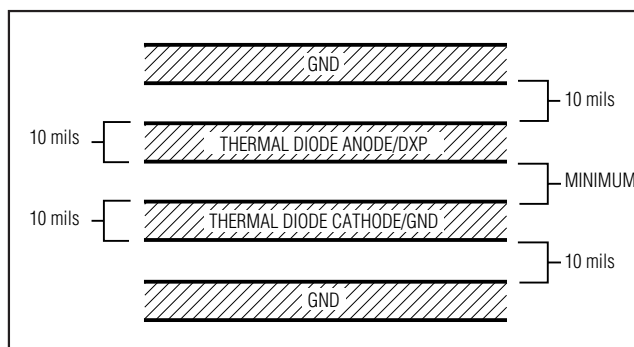

Figure 4. Recommended DXP PC Traces
- 4) Route the thermal diode traces in parallel and in close proximity to each other, away from any higher voltage traces, such as +12VDC. Leakage currents from PCB contamination must be dealt with carefully since a  $20\text{M}\Omega$  leakage path from DXP to ground causes about  $+1^{\circ}\text{C}$  error. If high-voltage traces are unavoidable, connect guard traces to GND on either side of the DXP trace (Figure 4).
- 7) Use wide traces. Narrow traces are more inductive and tend to pick up radiated noise. The 10-mil widths and spacing recommended in Figure 4 are not absolutely necessary, as they offer only a minor improvement in leakage and noise over narrow traces. Use wider traces when practical.